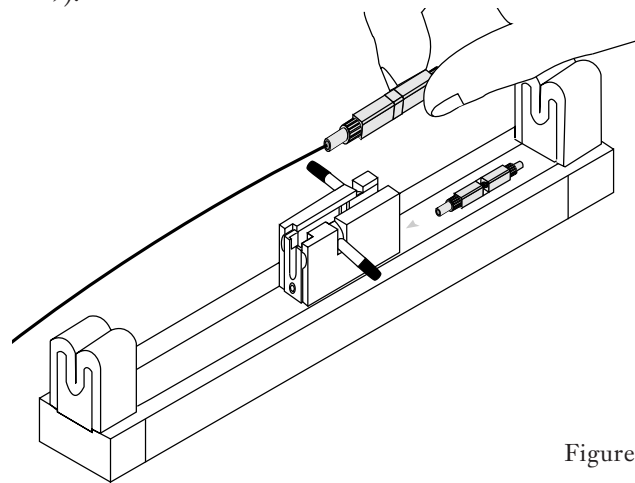

Figure 9
- Working from the right side of the assembly tool, carefully lift the CamSplice out of the tool (Figure 9).